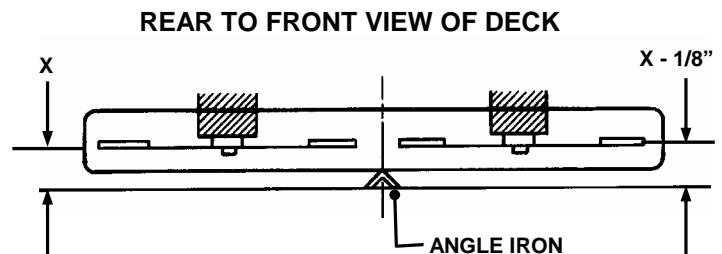

FIGURE 4.1
e. Measure the distance from blade tips to floor. If the measurement is within 1/8" from side-to-side, the deck levelness is satisfactory. If the difference from side-to-side is greater than 1/8", an adjustment will have to be made. See Figure 4.1.